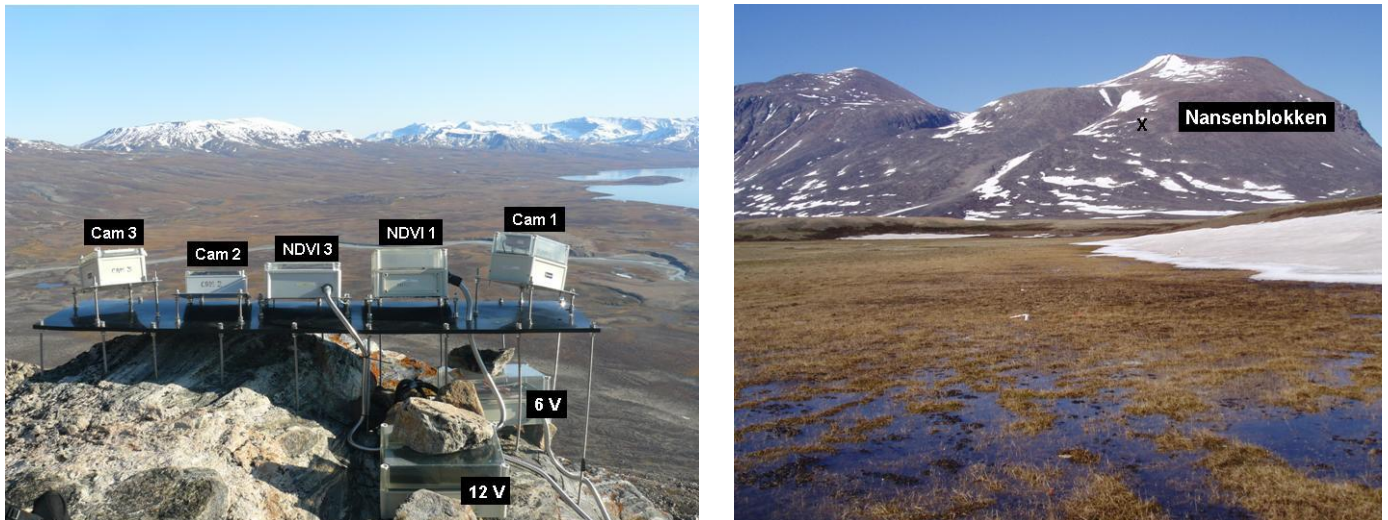

Fig 2.16 The fixed installation on top of Nansenblokken 480 m a.s.l. (left). Position of Nansenblokken on the eastern slope of Zackenberg (right).
Digital images are captured from the top of Nansenblokken, a prominent rock on the eastern slope of Zackenberg (Fig. 2.16)
- Press the Menu button (5 on fig 2.16).
- Use the arrows (3 on fig 2.16) to adjust date and time. (Editable values are highlighted)
- Press menu and then the Live view/playback button (2 on fig 2.16)